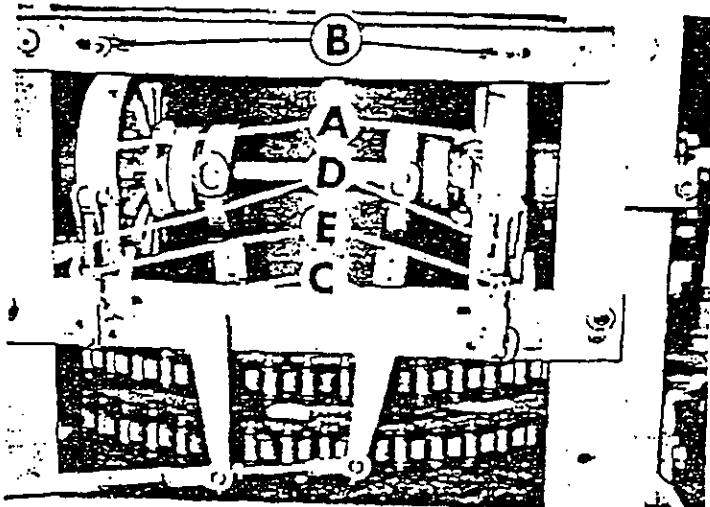

FIG. 4
The brakes (A) Fig. 4 are adjusted by means of the nuts (B). The adjustment should be such that, with the control handle (C) Fig. 3 in the center segment of ratchet (D), the brakes are set. As the brakes wear and no further adjustment can be made with nuts (B), further adjustment may be made by disconnecting the clevis (C) Fig. 4 and unscrewing it on brake rod (D). However, when this adjustment is employed, never go beyond the point where less than four or five threads of the brake rod (D) are engaged in the clevis (C). When the adjustment is completed, be sure to tighten lock nut (E). Replace the brake lining on the drum when the rivets score the drum.